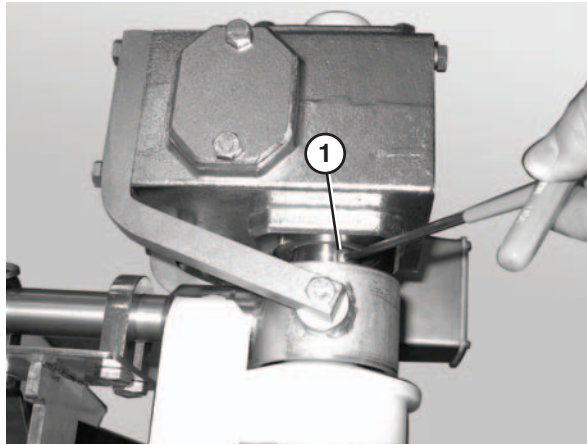

Figure 52
- Loosen the button head screws (**Figure 52, item 1**) that connect the gearmotor to the drive spindle.